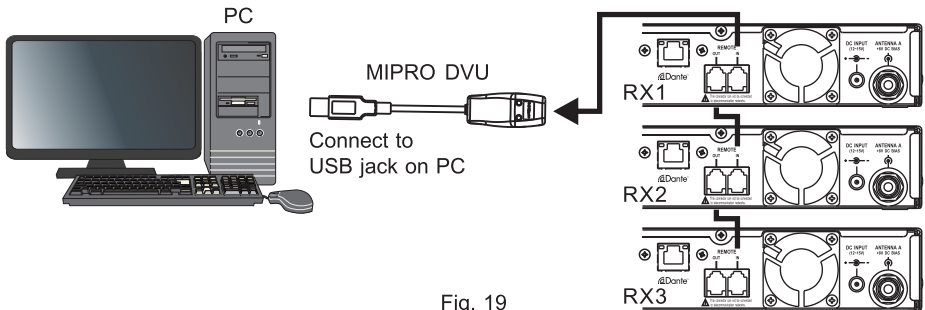
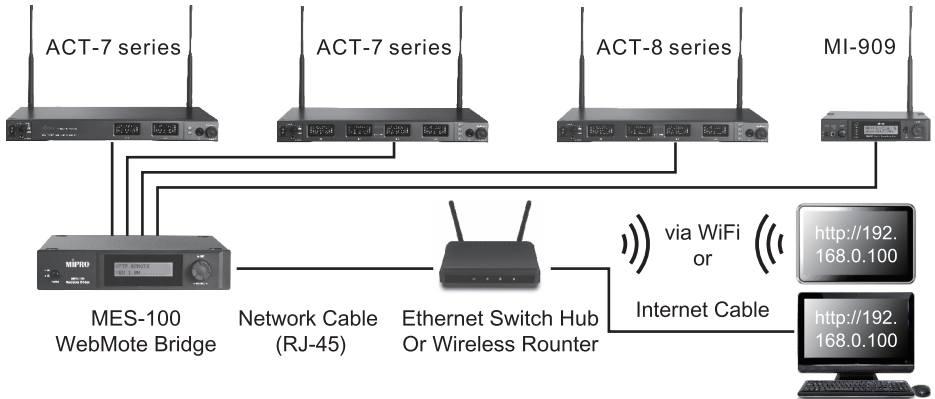

Fig. 19
Fig. 20
2. MIPRO DV Wiring Instructions. Fig. 19:
- (A) Use supplied hardware cable for serial connection to MIPRO receivers and PC network interface connector ¹⁶.
- (B) Next, use an USB connector to link receivers input interface connector via MIPRO DVU to a computer USB PORT.
- (C) Up to 64 receiver channels can be connected, remote-controlled and monitored.
- (D) The network cable length can be connected up to 300 meters, but the longer it is, the transmission quality will be more unstable. The ideal cable length for optimal transmission quality is less than 100 meters.
3. MES-100 Wiring Instructions. Fig. 20: (for optional MES-100)